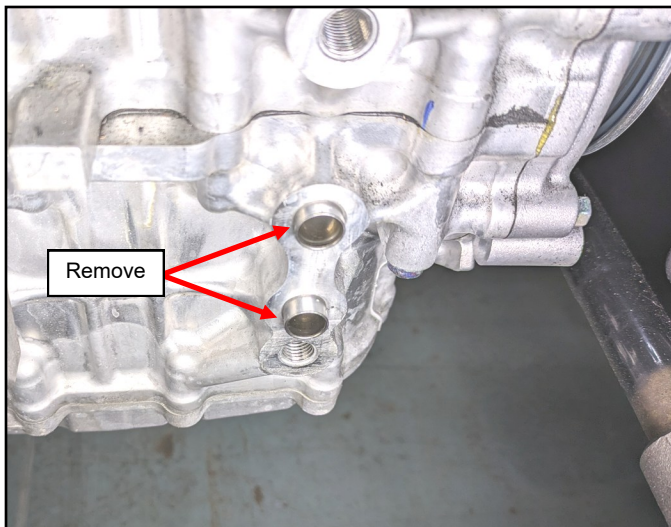

Fig. 2.18 (Remove Alignment Pins)
2.18 Remove and discard lower alternator bracket alignment pins per fig. 2.18.